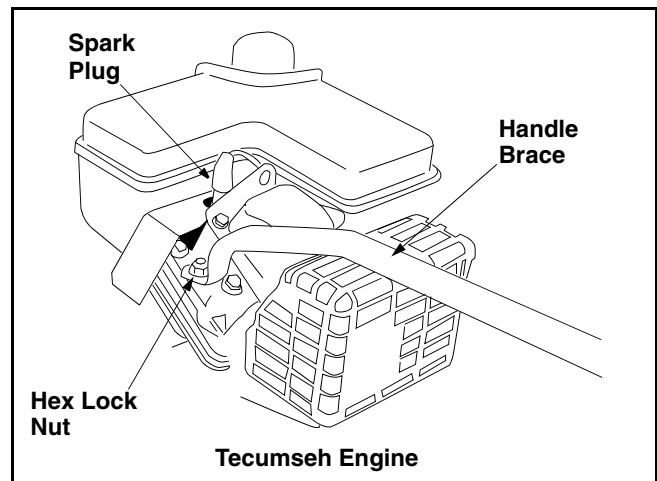

Figure 3
- Remove the hex lock nut from on top of the engine, just to the left of the spark plug. Attach the curved end of the handle brace to the top of the engine, using hex lock nut just removed. Tighten securely. See Figure 3.